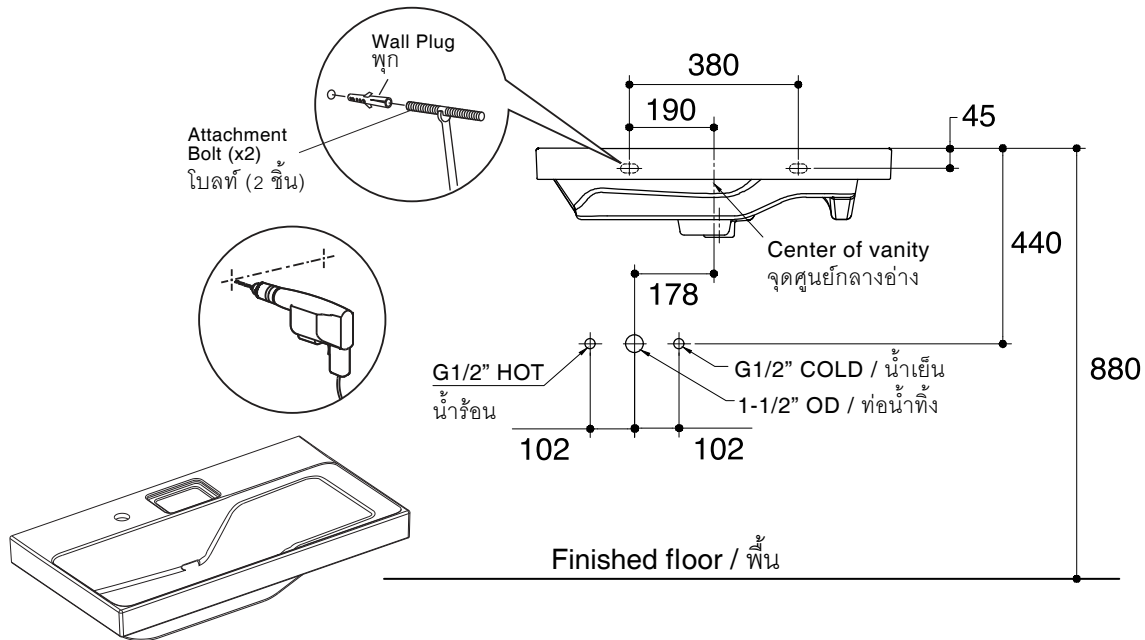
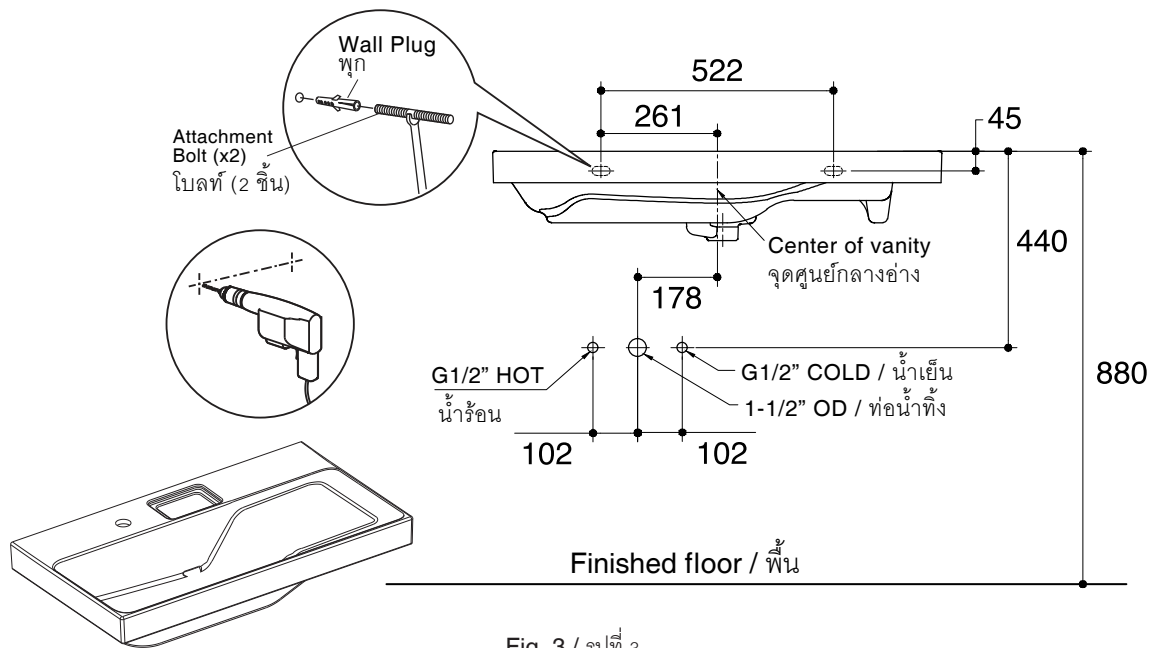

Fig. 2 / รูปที่ 2
Fig. 3 / รูปที่ 3
2. The height in Fig. 2 to Fig. 3 can be adjusted according to actual height of the cabinet. Inlet of hot water and cold water can be adjusted according to installation conditions.